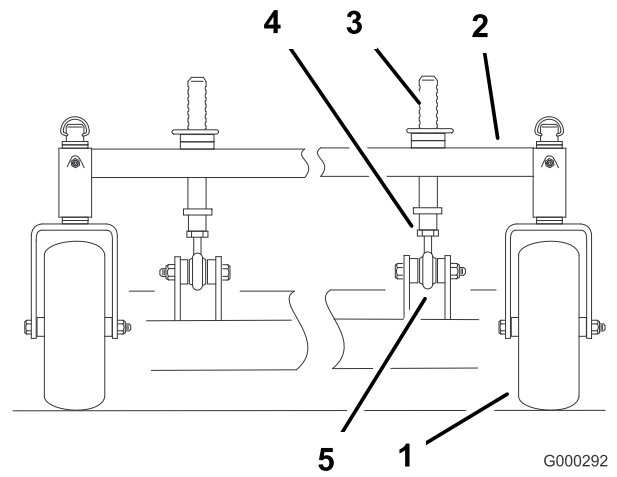

Figure 66
1. To change the front-to-rear pitch, the front height-of-cut posts can be adjusted (Figure 66).
2. To raise the front of the deck, loosen jam nut and rotate the front pin clockwise (Figure 66).
3. To lower the front of the deck, loosen jam nut and rotate the front pin counter clockwise (Figure 66).
6. Tighten the jam nuts (Figure 66).